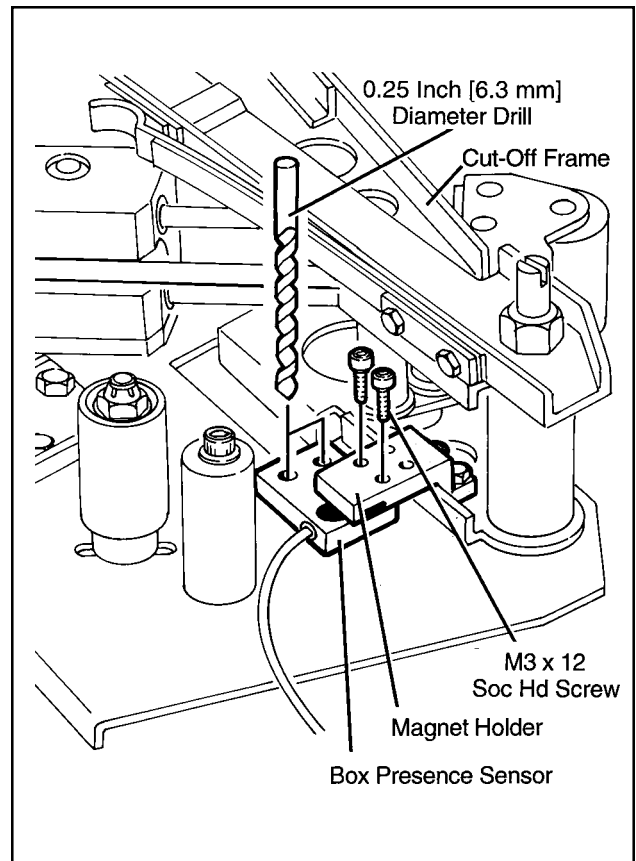

Figure 2-18
9. Temporarily attach the box presence sensor to the magnet holder with two M3 x 12 socket head cap screws as shown in Figure 2-18. Using the holes in the box presence sensor as a guide, drill two 1/4 inch [6,3 mm] holes through large side plate of taping head. **Be sure cut-off frame is in its normal rest position when drilling holes.**